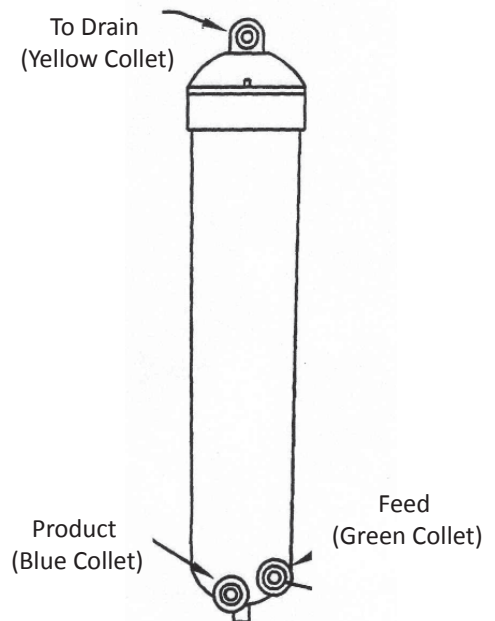

Fig. 6
4. Slip the 1/4" and 3/8" tubing through opening in polished faucet base. Slide white plastic spacer open-end-up onto the threaded faucet stem (2).
5. Thread the 3/8" washer (3) and mounting lock nut (4) onto the threaded stem. (Fig 6)
6. Thread faucet quick-connect adapter (5) on to threads of faucet stem. NOTE: This connection should be hand-tightened only. Push one end of product tubing into connection.
8. Position the faucet to the desired handle orientation. Slip the slotted washer (1) between the white plastic spacer and the sink. Securely hand tighten the mounting nut.
4. Remove feed tube from old desalinator and insert it in the (green) feed connector of the new desalinator. See Figure 6.